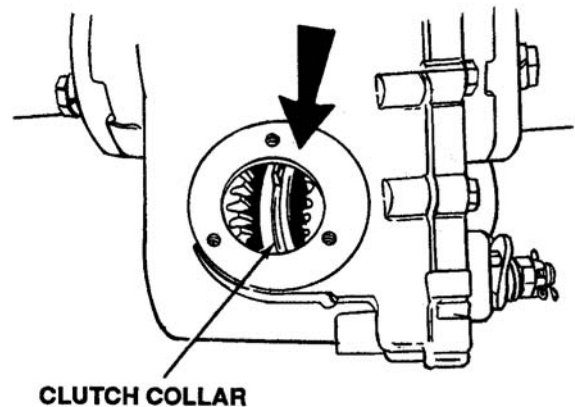

Figure 5-4. Location of Clutch Collar
4. Inspect the gears and clutch collar in the housing for any wear. See Figure 5-4.